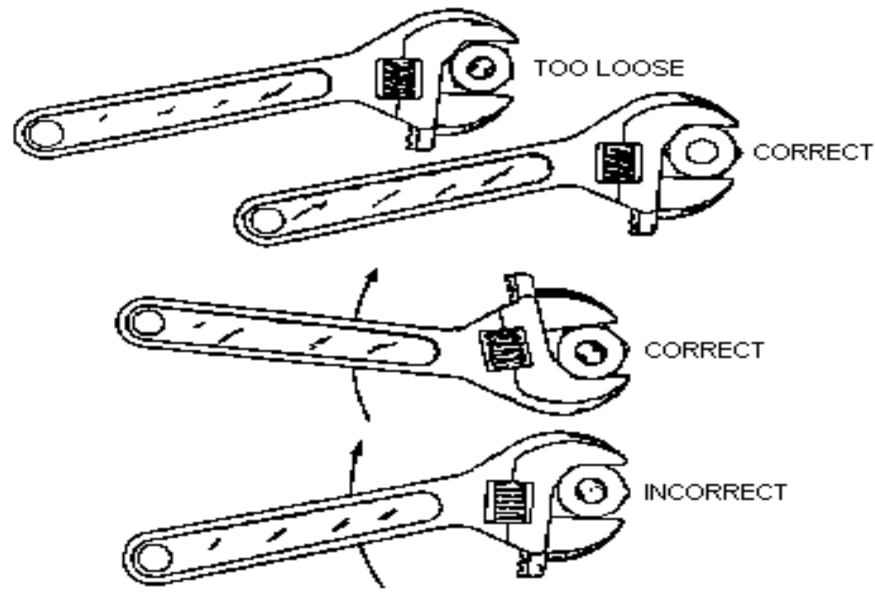

Figure 11, Adjustable Open-End Wrenches
- **Adjustable Open-End Wrench.** The open-end adjustable wrench is a common tool used by most tradesmen. (See Figure 11). It is also the most misused tool of all and is commonly hammered on and even used backwards, as shown in Figure 11.